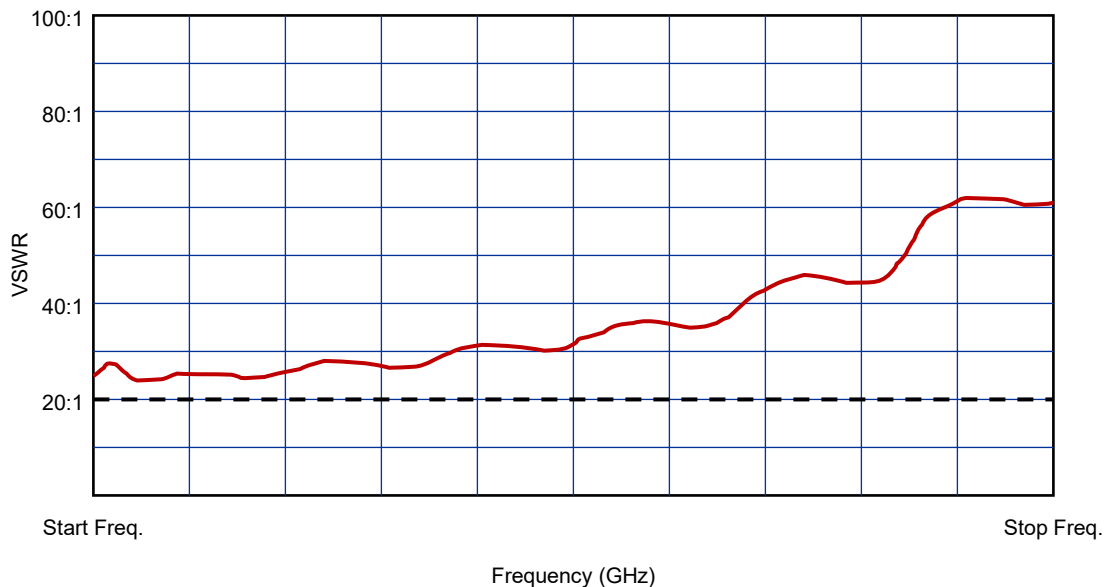

Figure 4. VSWR Range Display
8. Set the VNA controls for a convenient display and verify that the VSWR is as specified in Table 1. The VNA display should be similar to the sample shown in Figure 4.